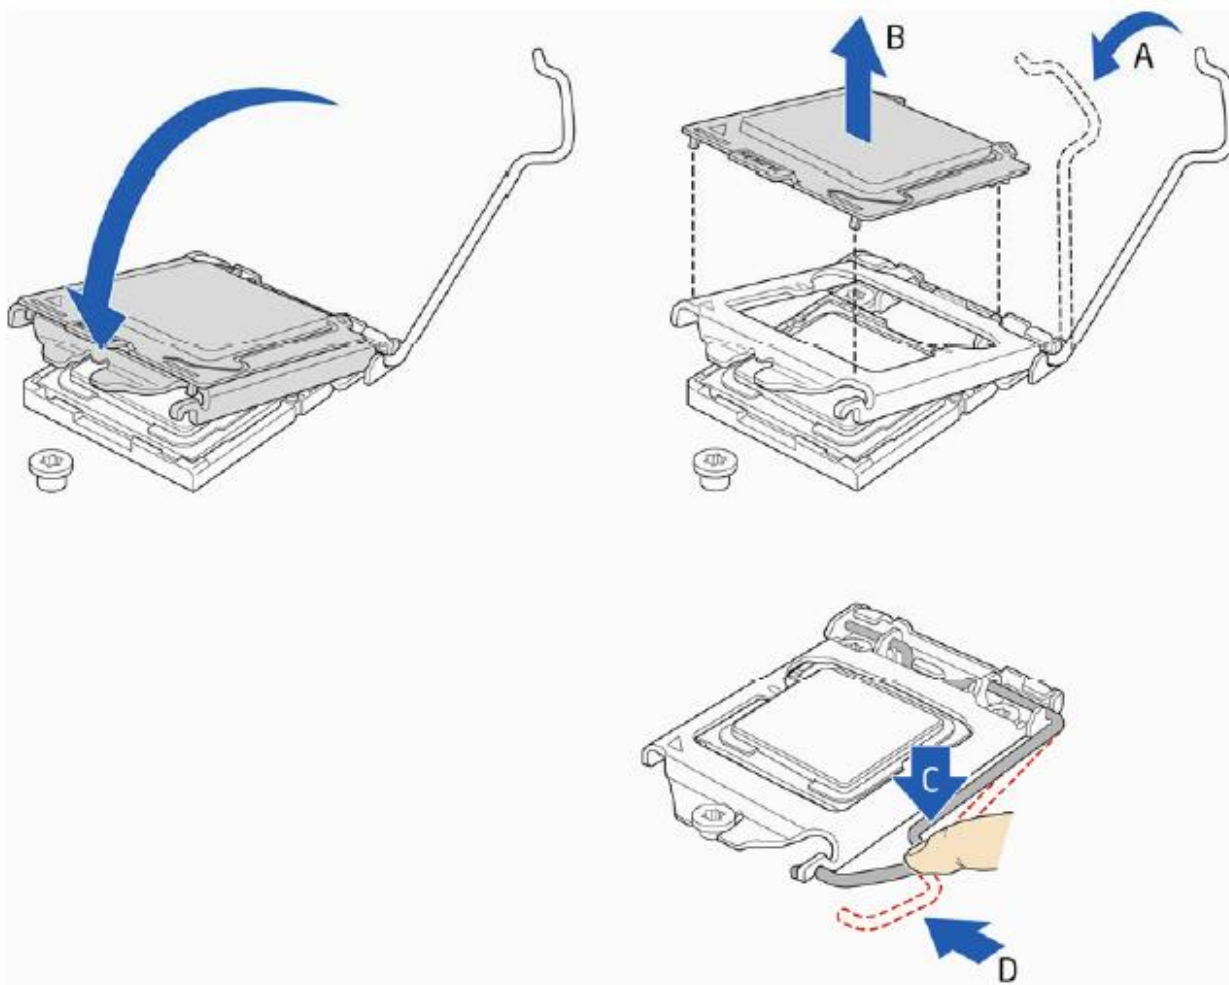

Figure 22: Secure the load plate in place
4. Hold the processor with your thumb and index finger oriented as shown in Figure 22 to align your fingers with the socket finger cut-outs. Make sure that the processor Pin 1 indicator (gold triangle) is aligned with the Pin 1 chamfer on the socket (Figure 22, B) and that the notches on the processor align with the posts on the socket (Figure 22, C). Lower the processor straight down without tilting or sliding it in the socket (Figure 22, A).